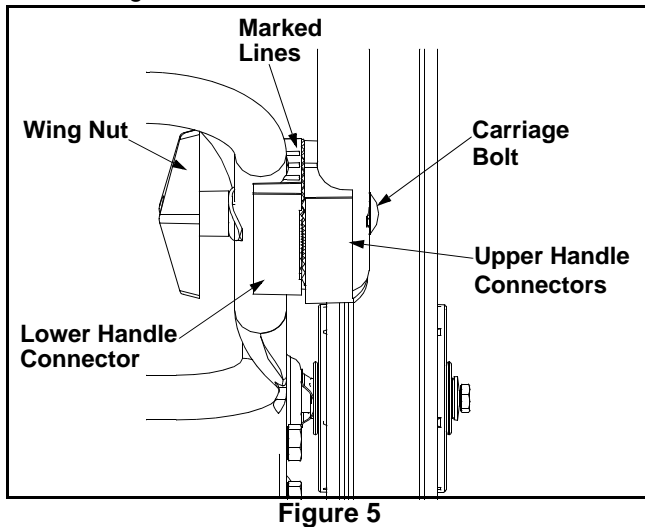

Figure 5
- The lower handle connector has three marked lines on the top and the upper handle connector has one marked line. See Figure 5.
- Secure the handle connectors in position by tightening each wing nut (carriage bolts must be seated properly into the handle and grooves must line up between connectors). Also make certain the bottom tip of the upper handle connector in front of the bottom tip of lower handle connector. See Figure 5.